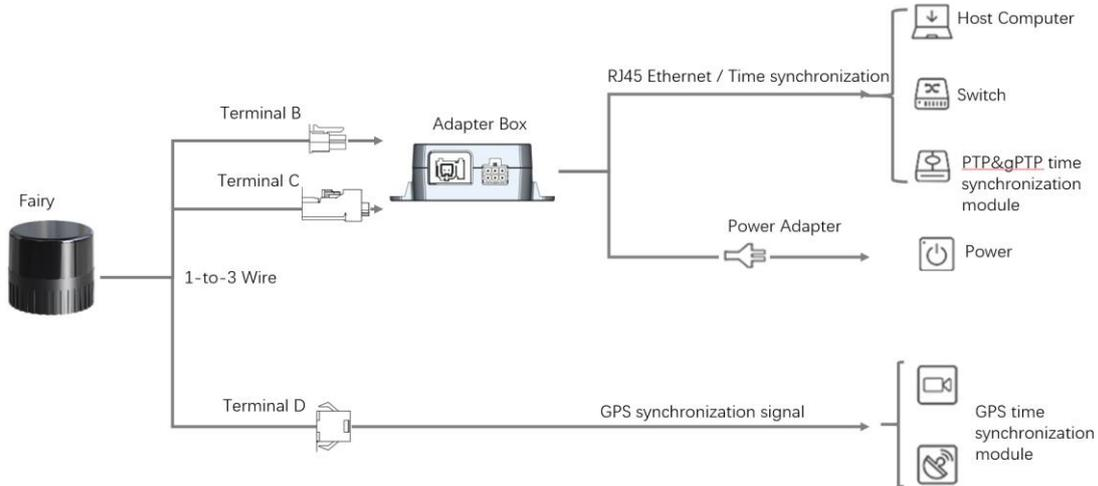

Figure 10 LiDAR Connection
The connection method is shown in Figure 10.
- 1) The time synchronization module (PTP & gPTP, GPS time synchronization module) is not included as a standard product. If you need to use these features, please purchase them separately and follow the connection method shown in Figure 10;